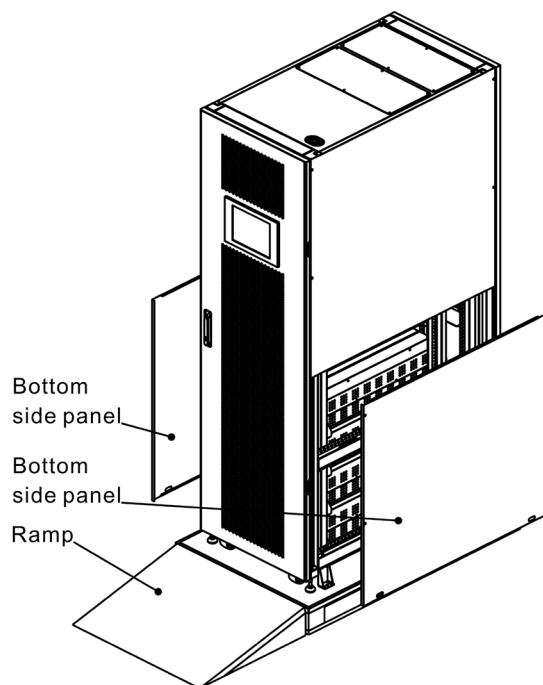

Figure 2-3
- Put the included ramp in the front of the cabinet. Then, remove two side panels. Refer to Figure 2-3.